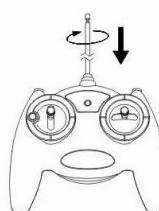

Fig2
1. insert the antenna end into remote antenna hole, then tighten the clockwise direction. (Figure 2)